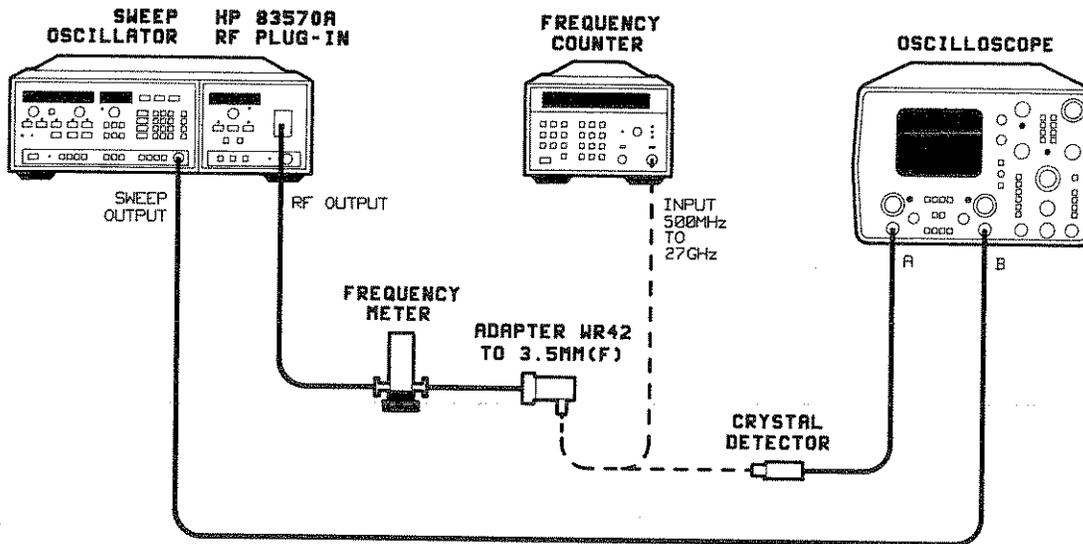

Figure 4-1A. Alternate Swept Frequency Accuracy Test Setup
- 1A. Connect equipment as shown in Figure 4-1A.